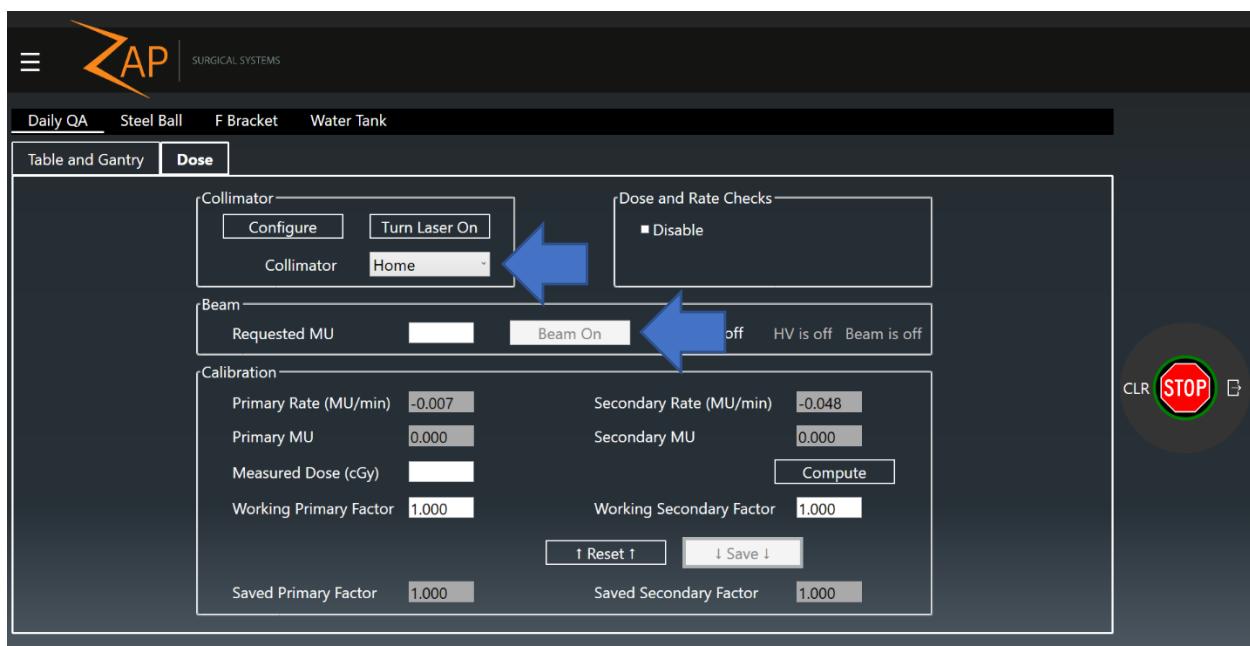

Figure 3-10 Daily QA page, Dose tab. Arrows highlight input for collimator selection and the setting of exposure.
9. Click on the **Dose** tab (see Figure 3-10).